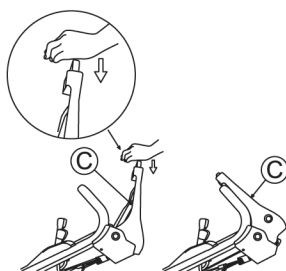

Fig. 16
3. Push Blade lever (C) forward while pressing its yellow button. (See Fig. 16)